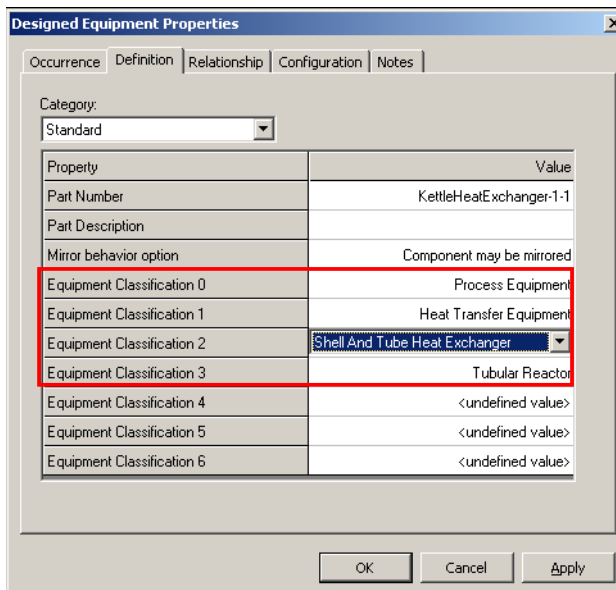

Figure 10: The Definition Classifications Selected
- Switch to the **Definition** Tab and set the classifications, as shown in Figure 10.